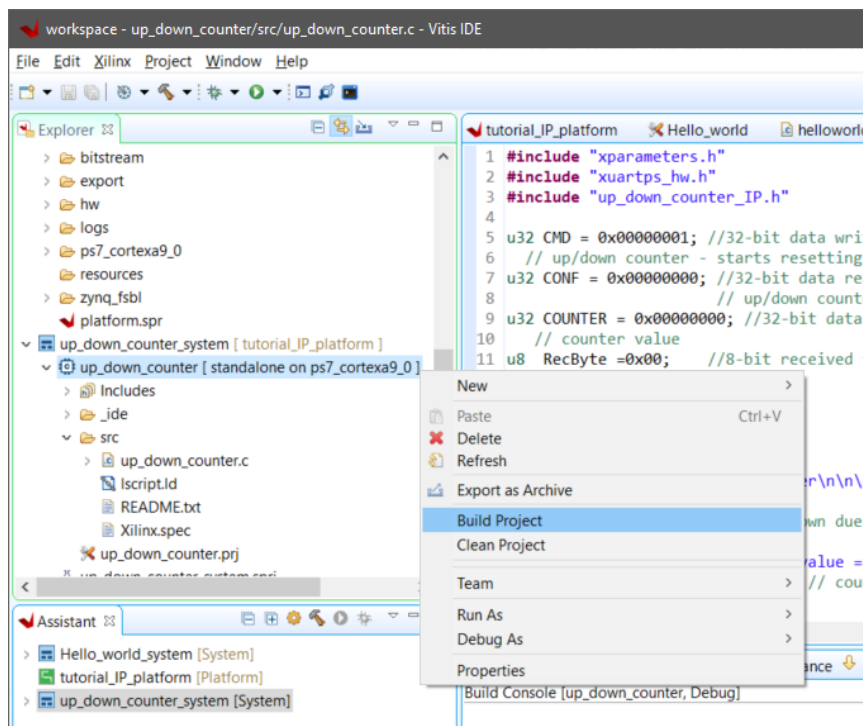

Figure 32
13. To compile the new application project, right-click on the project folder and select **Build Project** (Figure 32)